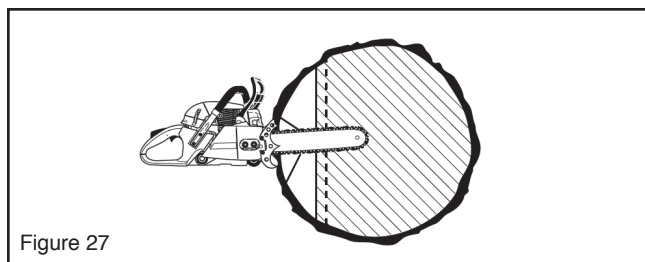

Figure 27
3. Align the saw in the direction in which the recess is to be cut. With the saw at full throttle, insert the guide bar in the trunk of the tree (Figure 27).